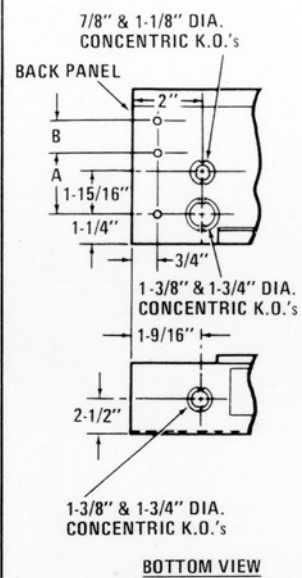

**Figure 2**
1. Remove front cover by removing mounting screws (Figure 2).
- If filler section is desired to terminate the heater, install the filler section in the end of the heater and extend to desired length. Mark the mounting hole locations, remove the filler section and drill the required mounting holes. Install the filler section in the heater and the end cap on the filler section as shown in Figure 2.
**Note:** If a thermostat and/or disconnect switch are installed in the heater left junction box, it may be necessary to cut away a portion of the filler section to allow access to these controls (Figure 2).
- Following the wiring diagram secured to the heater, make electrical connections. Ground the heater using the ground screws provided (Figure 2).
- Replace front cover and secure with mounting screws. (See Figure 2).
- Remove all the front covers from the heaters by removing mounting screws (Figure 2).